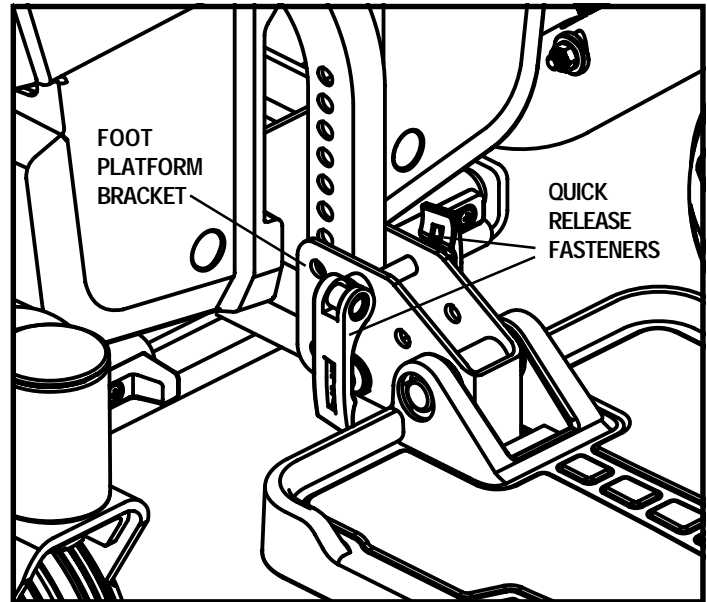
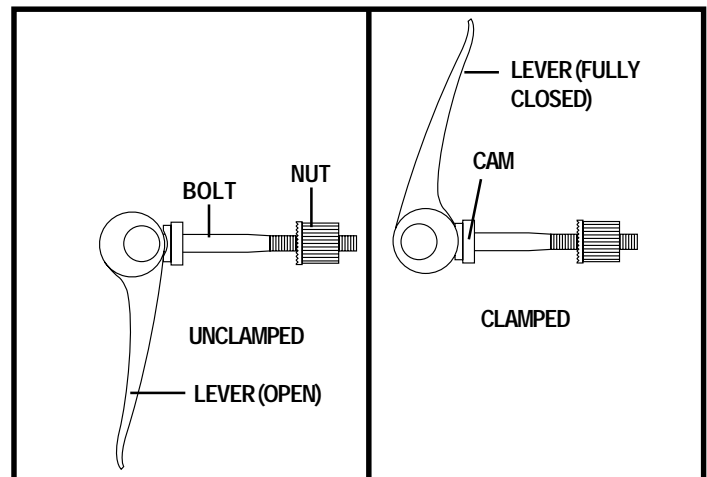

Figure 20. Foot Platform Adjustment
Figure 21. Quick Release Fastener Operation
1. Remove the quick release fasteners from the foot platform bracket. See figure 20.
Quick Release Fasteners: The foot platform is attached to the power base with two quick release fasteners. See figure 20. Each quick release fastener consists of a bolt, a lever, and a nut. See figure 21. The lever has a cam on the end that allows it to clamp into place. The quick release fastener has two states: clamped and unclamped. When the lever is open, the quick release fastener is unclamped. When the lever is closed, the quick release fastener is clamped